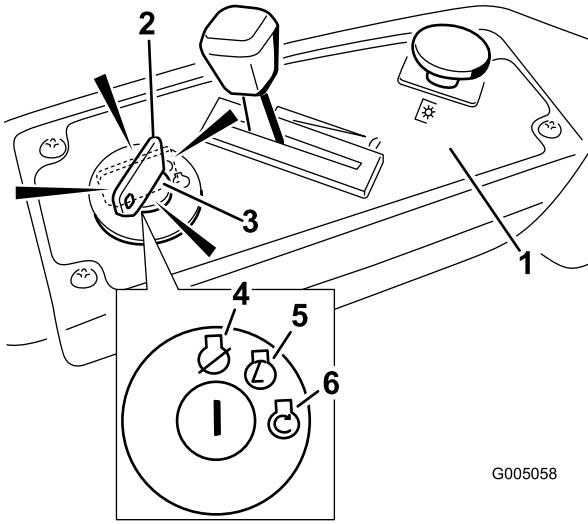

Figure 12
- Turn the ignition key to Start to energize the starter. When the engine starts, release the key (Figure 12).
2. Move the throttle lever to between Fast and half throttle (Figure 12).